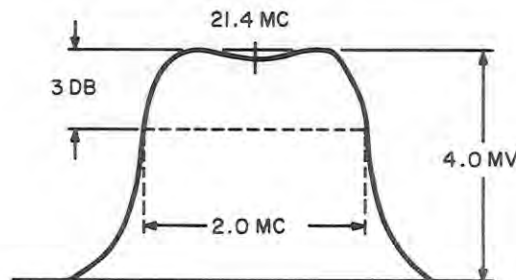

Figure 5-14. IF Response of 90 to 300 mc Tuner
- l. The response at the IF output should have the shape indicated in Figure 5-14.